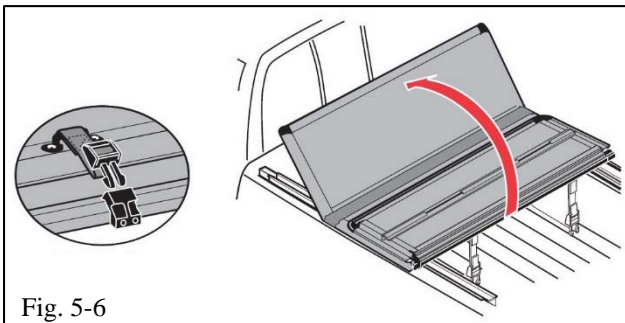

Fig. 5-6
- (e) Unclip the retention straps from the cab panel and carefully fold the panel forward (Fig. 5-6).